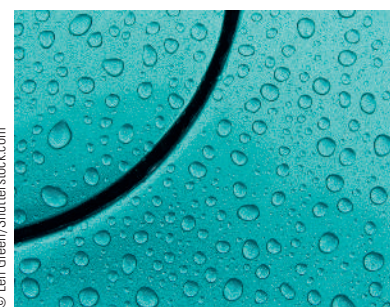

Figure 9.1 Surface tension causes water to bead on the polished surface of a car.
2. *Intermolecular forces, which are essentially negligible with gases, play a much more important role in liquids and solids.* Among the effects of these forces is the phenomenon of *surface tension*, shown by liquids. Molecules at the surface are attracted inward by unbalanced intermolecular forces; as a result, liquids tend to form spherical drops, for which the ratio of surface area to volume is as small as possible (Figure 9.1). Water, in which there are relatively strong intermolecular forces, has a high surface tension. That of most organic liquids is lower, which explains why they tend to “wet” or spread out on solid surfaces more readily than water. The wetting ability of water can be increased by adding a soap or detergent, which drastically lowers the surface tension.